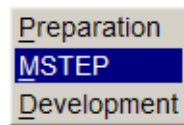

Figure 4.24: BSE menu
1. Select menu **BSE**→**MSTEP** to open the MSTEP solution module. See figure 4.24.